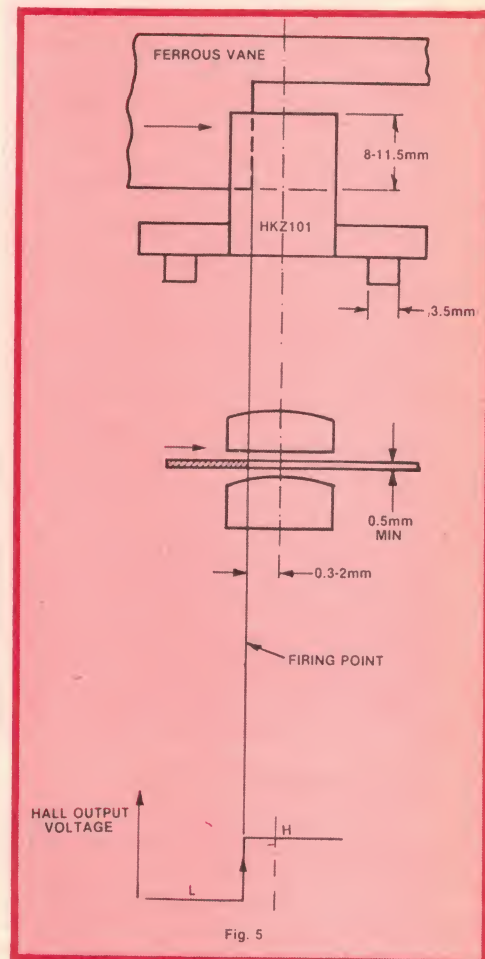

Fig. 5
The job of modifying the distributor is straightforward enough. What you have to do is remove the points and the existing rotor button, and replace them with the Hall sensor and the Bosch rotating vane assembly. The Hall sensor must be positioned so that the rotor vanes pass freely through the air gap at a depth of 8-11.5mm (see Fig. 5).
- Position the Hall sensor near where the points were located, so that the edge of the nearest vane is between 0.3mm and 2mm from the centre line (see Fig. 5). The sensor leads should face inwards. Note that Fig. 5 is for an anti-clockwise rotating distributor. If the direction of travel in your distributor is clockwise, then the vane should enter the sensor from the opposite side.